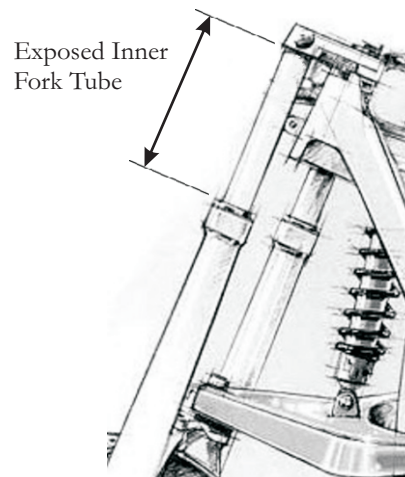

Figure 4
1. Begin by lifting/jacking the front end up just high enough to extend the front suspension until it's completely topped out (wheel slightly off the ground) then measure the exposed inner fork tube as illustrated in figure 4. Write this measurement on the "Ext." (or extended) line in **Rider Sag Worksheet** on page 3.